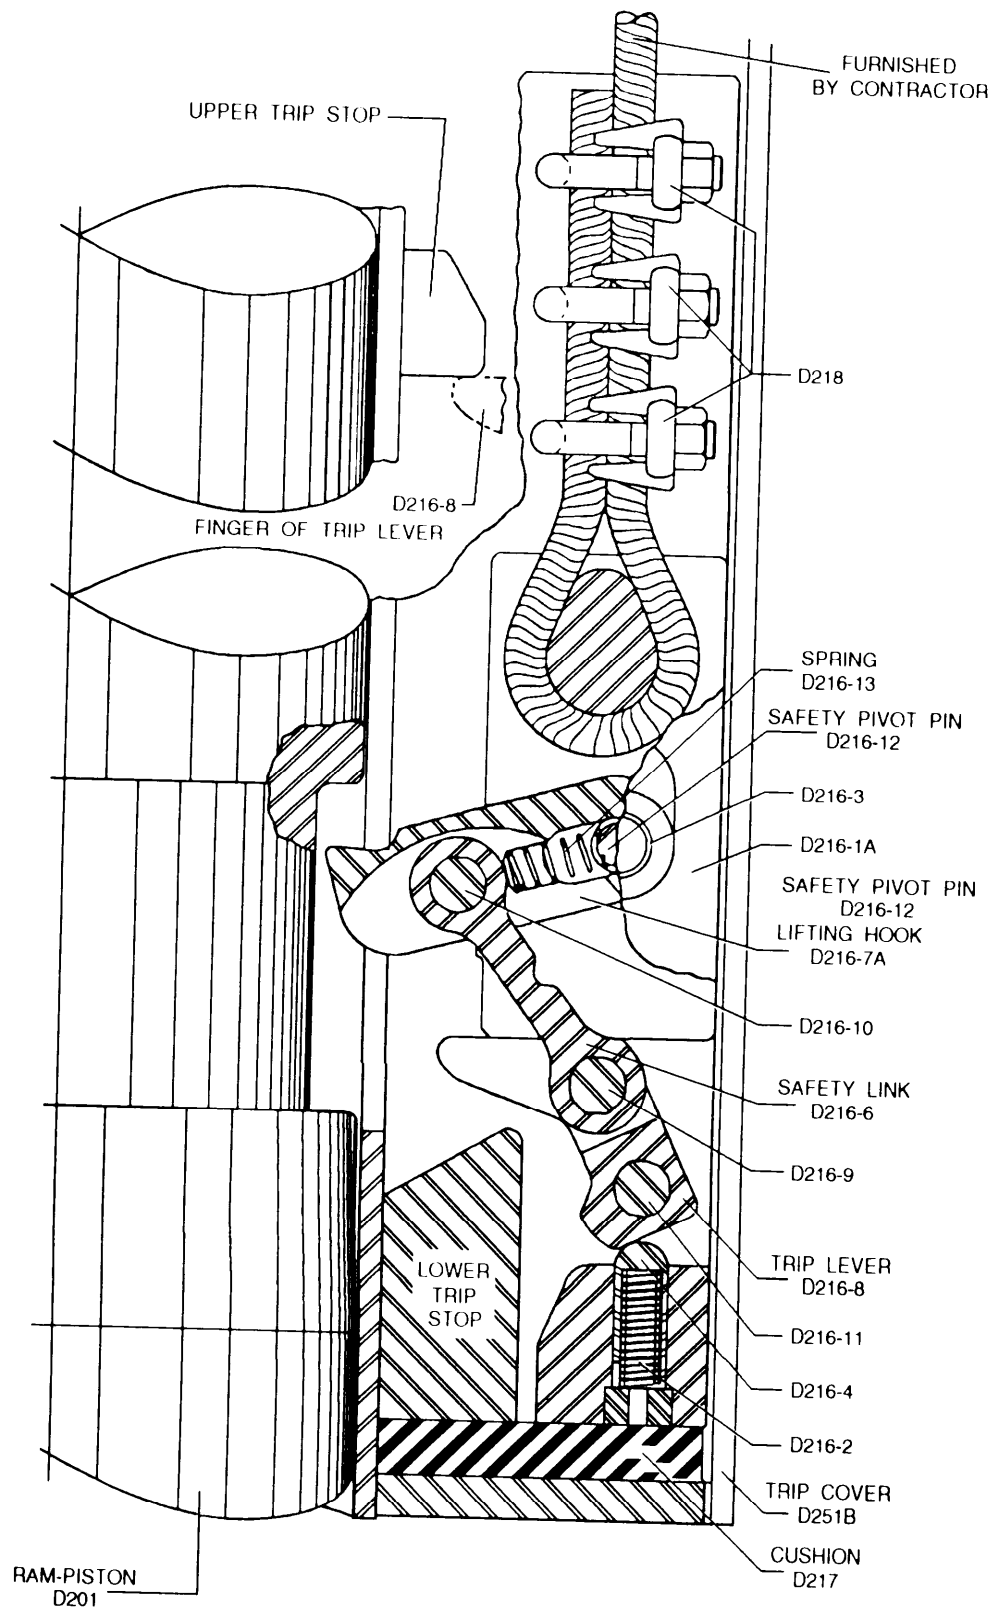

Figure 12-62.—Trip mechanism.
**TRIP MECHANISM.**— The trip mechanism (fig. 12-62) is an off-center linkage mechanism located at the